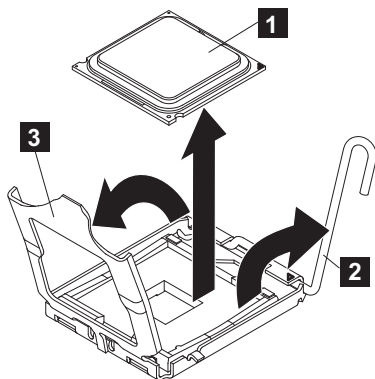

Figure 309. Opening the SAN Volume Controller 2145-CG8 or 2145-CF8 microprocessor-bracket frame
1. To open the socket in preparation for inserting the microprocessor, press down and out on the release lever (**2** in Figure 309 as you did to remove the microprocessor, and lift the microprocessor-release lever until it stops in the fully open position.